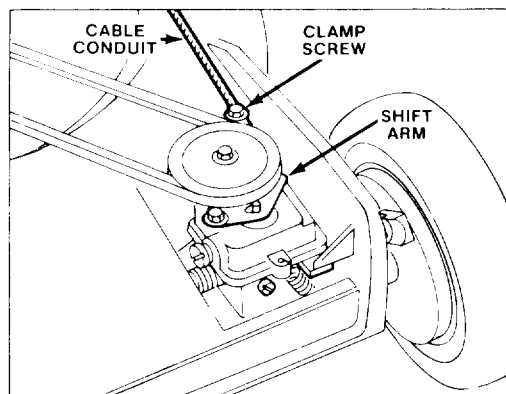

Figure 17
3. ADJUSTMENT (Fig. 17) — Loosen cable clamp screw until cable conduit slides. Move handle-mounted wheel drive control to DIS-ENGAGE detent. Move shift arm toward clamp screw and hold in place. Pull cable conduit to remove slack and tighten clamp screw